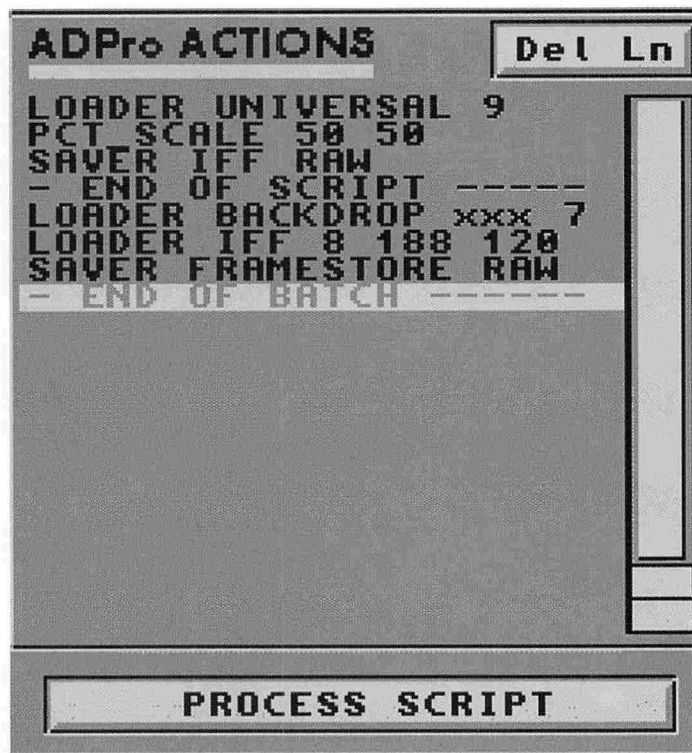

Figure 1
7. Now click the End of Current Script button above the ADPro Actions window. You will now have five lines in your script; Loader, Scale, Saver, End of Script, and End of Batch (the End of Batch line will be highlighted). You have just written the script that will load, scale, and save all the files in your first batch of PICT files (i.e., all images that were originally 900x200. See lines 1 through 4 and 8 in Figure 1).